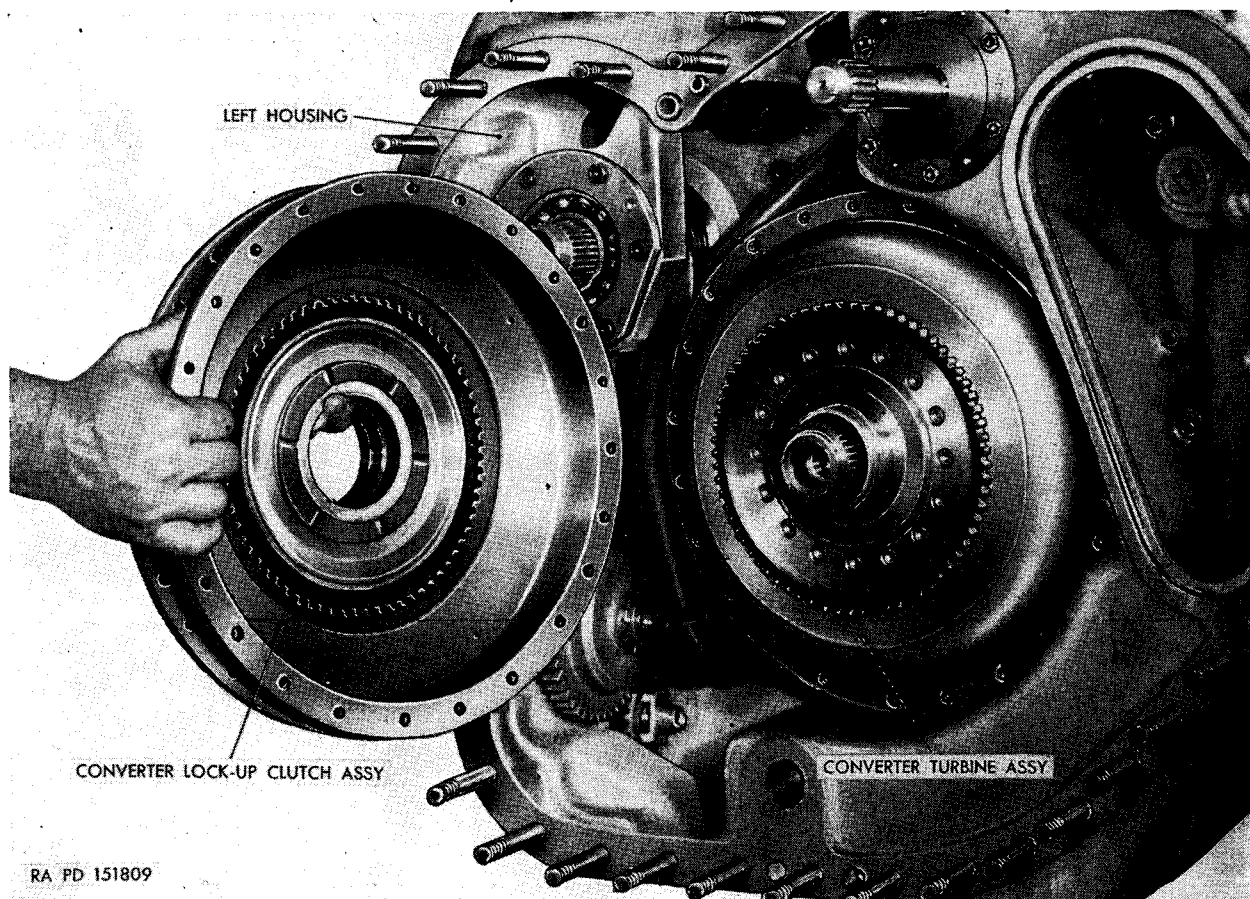

Figure 70. Removing lock-up clutch housing.
- (4) With a $\frac{1}{2}$ -inch wrench, remove 24 bolts from the converter lock-up clutch housing. Lift off the converter lock-up clutch assembly (fig. 70).